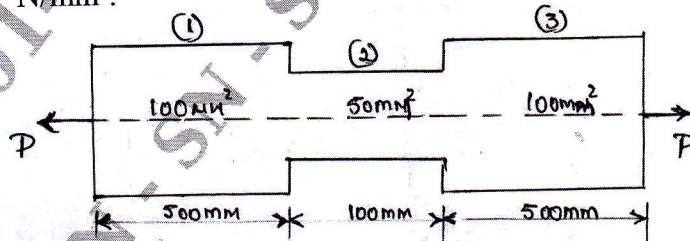

Fig. Q9 (c)
- c. The maximum stress produced by a pull in a bar of length 1100 mm is 100 N/mm2. The area of cross sections and length are as shown in Fig. Q9 (c). Calculate the strain energy stored in the bar if  $E = 2 \times 10^5$  N/mm2. (08 Marks)